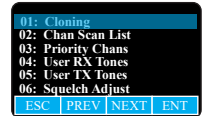

Figure 2
7. Place the Source/Master radio in cloning mode by pressing the "Menu" softkey, then highlight "Cloning" and press "ENT". *(See Figure 2)*